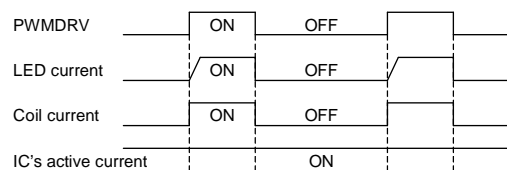

Figure 16. PWMDRV sequence
1) Current driver PWM control is controlled by providing PWM signal to PWMDRV, as it is shown Figure 16.